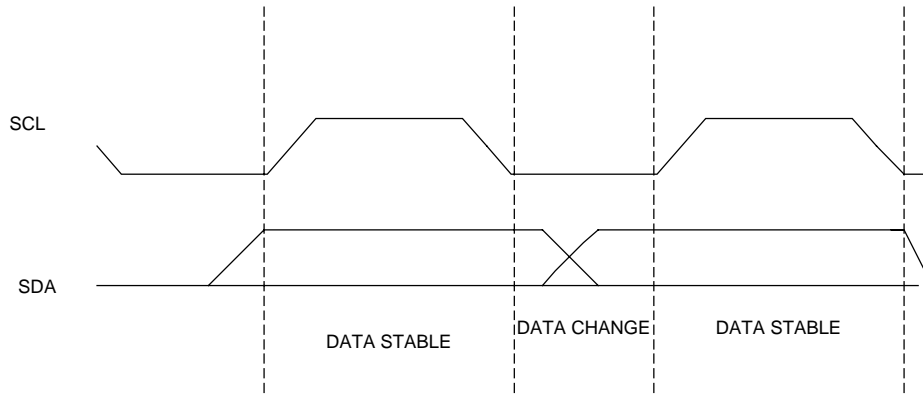

Figure 1
**SPD CLOCK AND DATA CONVENTIONS** - Data states on the SDA line can change only during SCL LOW. SDA state changes during SCL HIGH are reserved for indicating start and stop conditions (Figures 1 and 2).